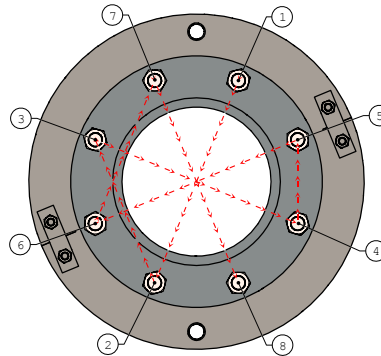

Figure 18: Sample Flange Bolting Torque Pattern
Step 5: Once the expansion joint and ITR plates are in place tighten all bolts to a “snug” tight fit before they are torqued. Torqueing should then be accomplished in steps gradually and as evenly as possible around the flange. The bolts should be tightened in an alternating sequence similar to the star pattern shown in Figure 18 to within the proper torque range specified for the style of expansion joint to be installed. The bolts are not considered tight and “locked-on” until the edge of the expansion joint flange bulges out or extrudes slightly. Refer to Appendix A for the proper ranges of torque values for the spool type expansion joints as well as further examples of the proper patterns used for torqueing the flange bolting. The use of stud bolting is acceptable as long as no more than 2-4 threads extend past the nut facing the expansion joint. Excessive amounts of threading extending toward the expansion joint can cause damage to the expansion joint as it expands resulting in a reduced service life and an increased possibility of failure.